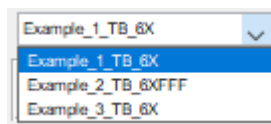

Figure 15. Variable set id list
- Lines starting with 'id: name' will be interpreted as ids for different variable sets. All variables in the 2nd line should be defined under each id. There is no maximum limit for different variable sets (ids). All id's are added to a dropdown menu as shown in the Figure 15 for the example file.